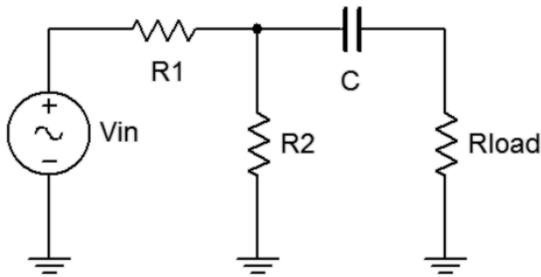

Figure 11.1
- For the circuit of figure 11.1, calculate the voltage across the 1 k $\Omega$  load using  $R1=1.5$  k $\Omega$ ,  $R2=2.2$  k $\Omega$ , and  $C=470$  nF, with a 2 V p-p 1 kHz source. Record this value in Table 11.1. Also calculate the expected Thevenin voltage and Thevenin impedance. Record these values in Table 11.2.
- Build the circuit of figure 11.1 using  $R1=1.5$  k $\Omega$ ,  $R2=2.2$  k $\Omega$ ,  $R_{load}=1$  k $\Omega$  and  $C=470$  nF. Set the generator to a 1 kHz sine wave at 2 V p-p. Make sure that the *Bandwidth Limit* of the oscilloscope is engaged. This will reduce the signal noise and make for more accurate readings. Measure the load voltage and record in Table 11.1 as  $V_{load}$  Original.